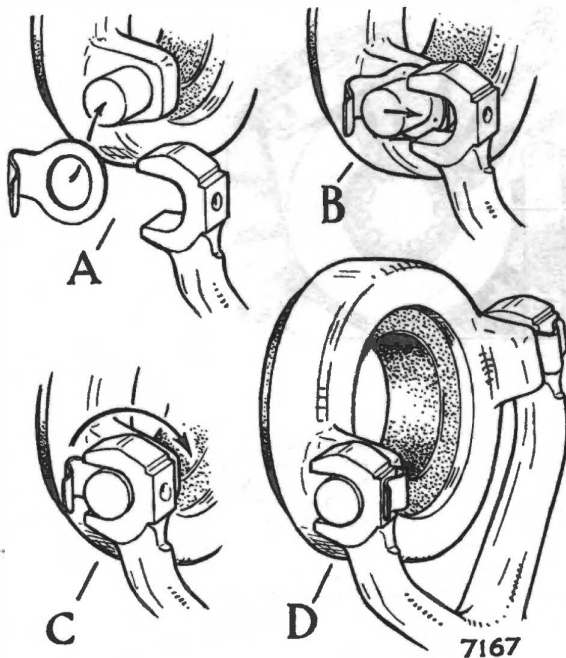

Fig. 16. Fitting Release bearing.
(See Fig. 16)
On cars which are fitted with a rear coupling, of the type illustrated in inset C, Fig. 16, the rear universal joint is dismantled in exactly the same way as the front joint after removing the coupling. For cars which are fitted with a metal to rubber
universal joint, (Inset B, Fig. 16), the rear joint cannot be overhauled in service, and in the event of damage a new joint must be fitted. Normally, no purpose will be served by removing the joint from the propeller shaft, but if this becomes necessary, the universal joint and the propeller shaft should be marked before they are separated so that they can be replaced in the same position on assembly.
The release bearing assembly is retained to the clutch fork by two spring steel clips, which are located by two flats on the reverse side of the fork. (See Fig. 16).
Rotate each retaining clip into position (C) until it locates on the flat on the fork. (D). (See Fig. 16).